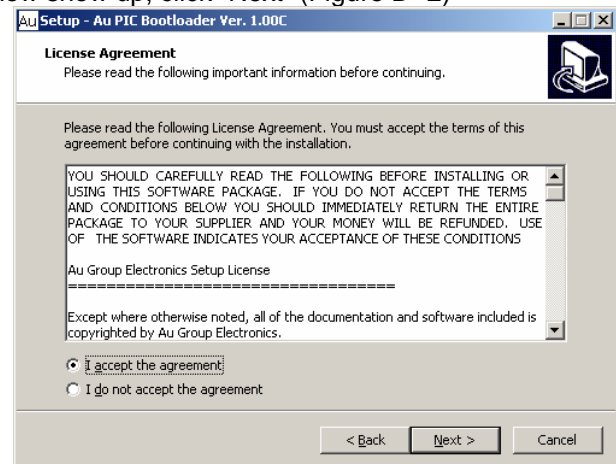

Figure D-3
3. "License Agreement" window show up, read the license agreement and select "I accept the agreement", then click "Next" to continue (Figure D-3).